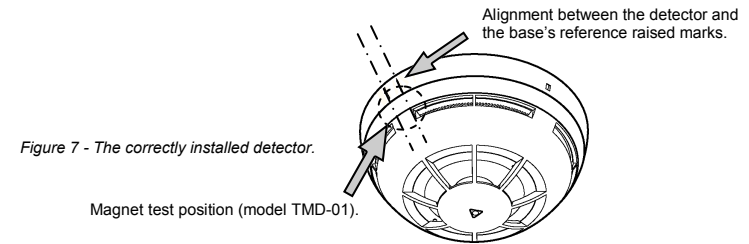

Figure 7 - The correctly installed detector.
5. When the detector is firmly engaged verify the alignment between the detector and the raised reference marks on the base (figure 7).